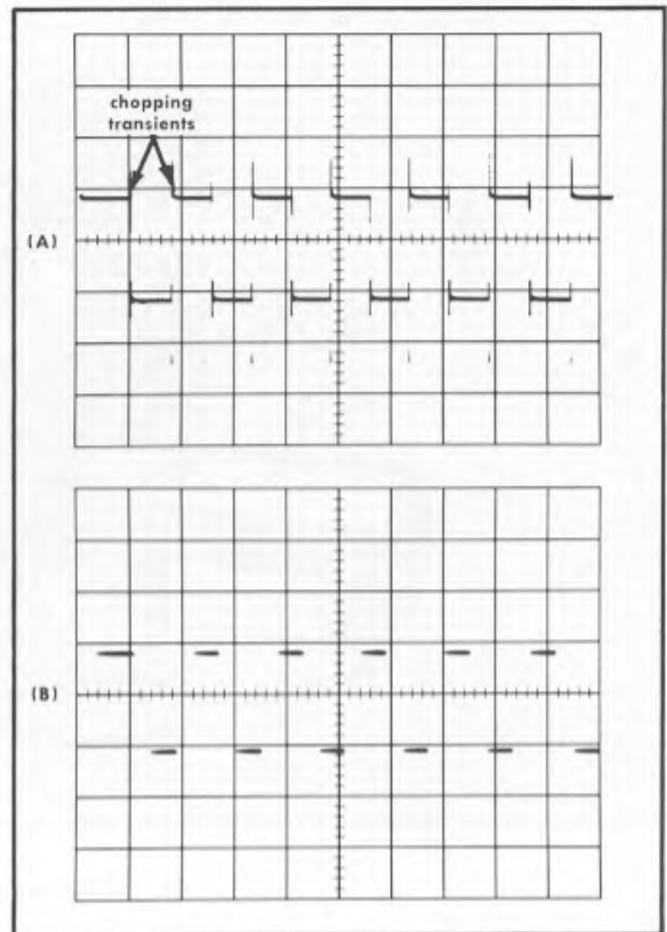

Fig. 7-4. Waveform showing (A) unblanked chopping transients and (B) blanked transients.
- Check—To see that the chopping transients are blanked out (see Fig. 7-4).